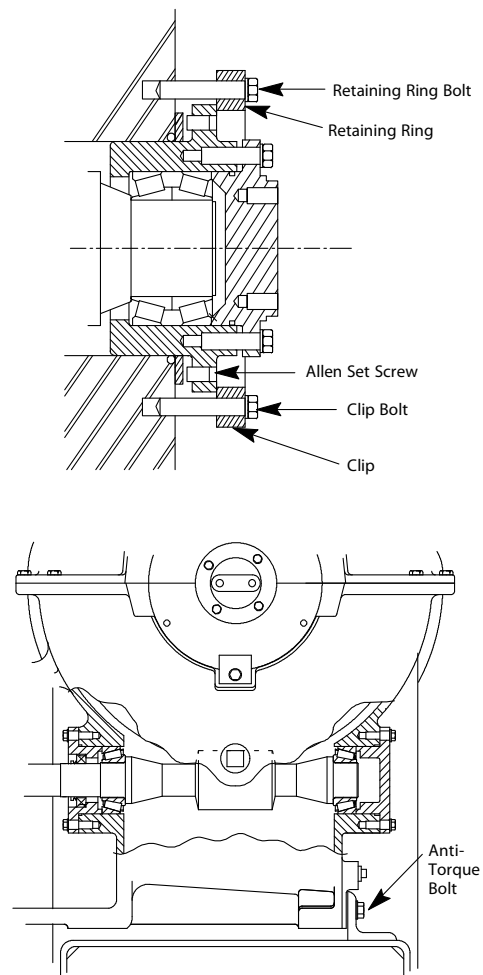

Figure 36 - Gear Pattern Adjustment Bolts
1. Loosen the retaining clip bolts and the housing anti-torque bolt. See Figure 36.